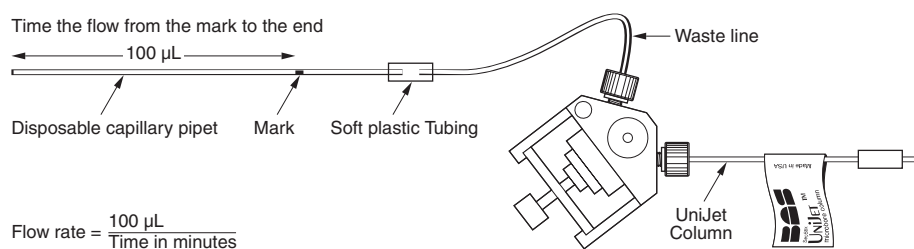

Figure 15. Measuring microbore flow rate.
4. Always calibrate your pump gravimetrically or with volumetric glassware, since the accuracy of many pumps at these low flow rates is unreliable. An easy method of measuring microbore flow rates is shown in Figure 15.